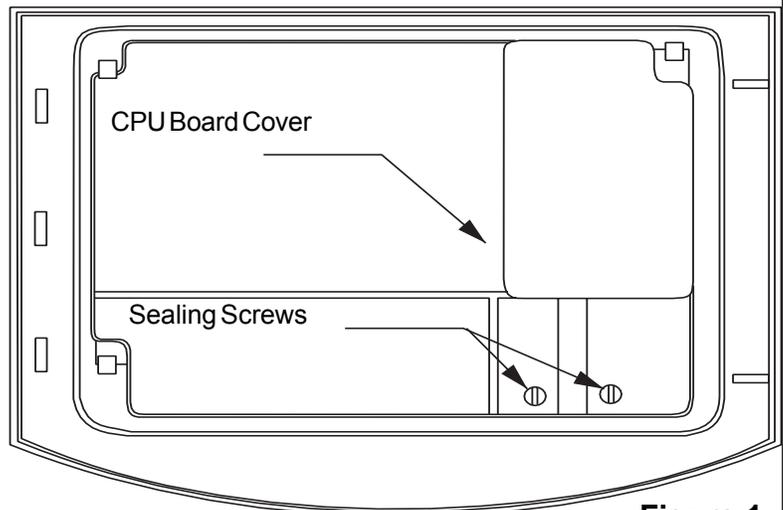

Figure 1
To enter TEST MODE, perform the following procedure (please refer to Figure 1 & 2):
- 2) Remove two Sealing Screws (see **Figure 1**).